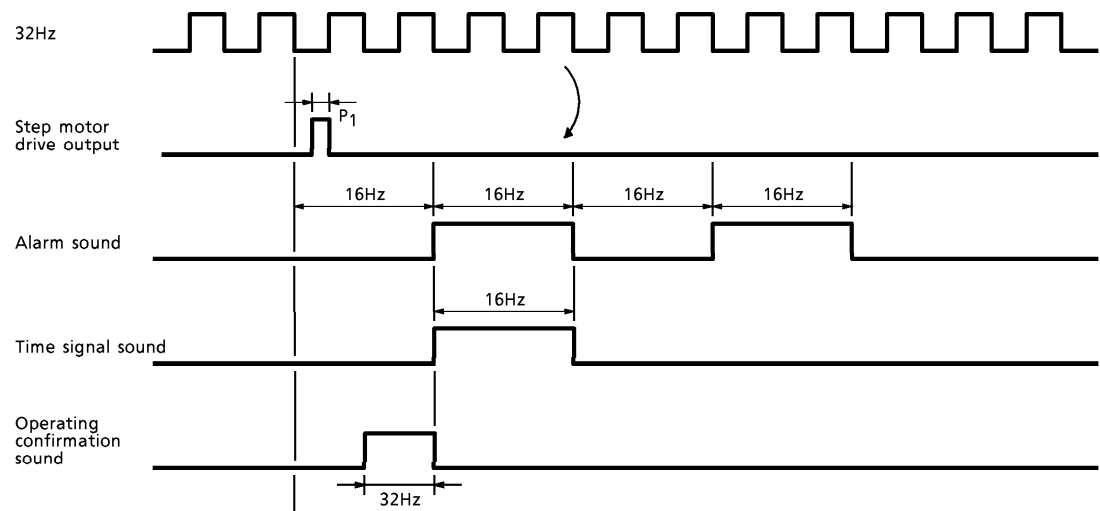

Fig.4 Step motor drive output and buzzer drive output timing
- (2) The step motor drive output takes precedence over other drive outputs (except for the LCD drive output signal).
- When the step motor drive output and the buzzer drive output overlap, the step motor drive output takes precedence and the buzzer drive output is delayed about 62.5ms. Fig.4 shows the timing.